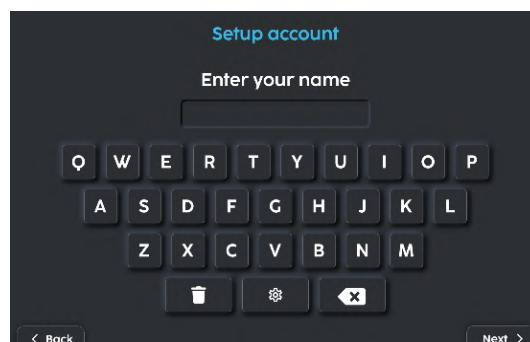

FIGURE 3-4
4. Create an account name **(Fig. 3-4)**.